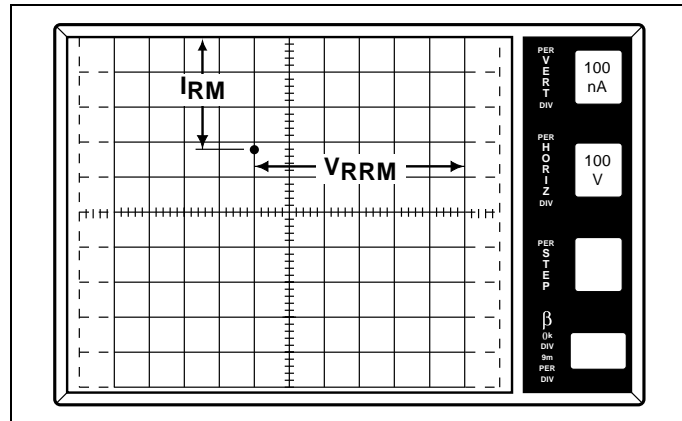

Figure 19.1  $I_{RM}$  is equal to 340nA at  $V_{RRM}$  equal to 600
9. Increase *Variable Collector Supply Voltage* to the rated  $V_{RRM}$  of the device and observe the dot on the CRT. Read across horizontally from the dot to the vertical current scale. This measured value will be the leakage current. (See Figure 19.1.)